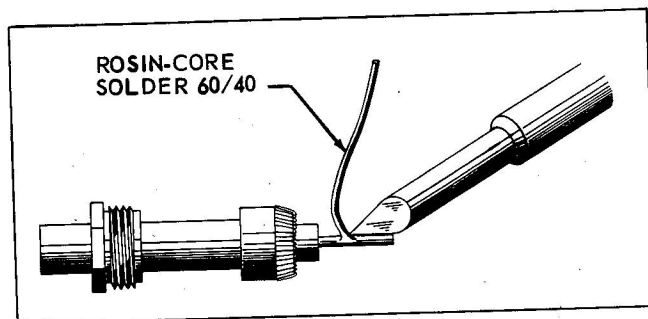

Figure 4-10. Tinning Center Conductor
4-21. Tin center conductor with soldering iron as shown in Figure 4-10.
oxidized wire cannot be cleaned by rosin flux and should be discarded. The usual solder is an alloy of 60% tin and 40% lead extruded in wire form with a core of rosin flux. Solder is applied to the parts to be joined after heating them with a soldering iron. The solder is best applied at the junction of the tinned tip and the work. This forms a bridge of molten metal which helps to transfer the proper amount of heat to the joint. See Figure 4-10. After the joint has cooled, remove excess flux by wiping with a clean cloth. Use alcohol as a solvent, if necessary. If excess solder is deposited on the contact, remove by scraping with a knife. Be careful not to cut into contact or dielectric.
- h. Tin center conductor as shown in Figure 4-10.
h. Tin center conductor as shown in Figure 4-10.